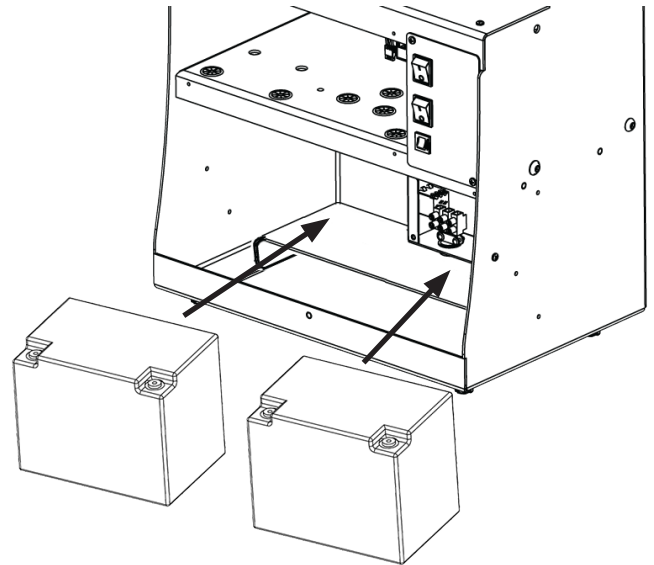

Figure 39. Install Extended Batteries
7. Place the 35Ah batteries on the tray (Figure 39).